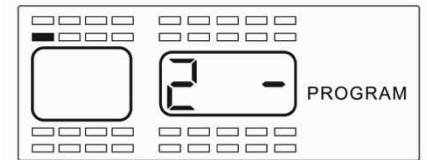

Figure 2-5
- 5) Input the three digit sensor serial number located on the sensor using the “Up” and “Down” arrows to adjust the numeric value and the “Left” and “Right” arrows to change the digit being adjusted (See **Figure 2-2** for the three digit number location). Once the serial number is entered, press and hold the “S” button for 3 Seconds until the number flashes and audible beeps are heard. See **Figures 2-5, 2-6, and 2-6a**.